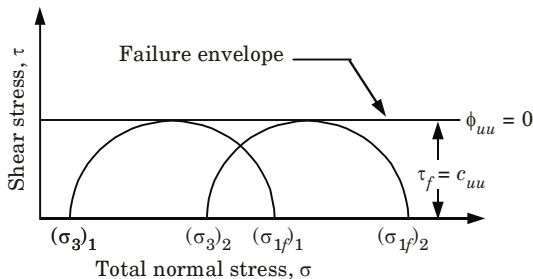

Fig. 3.
3. The Fig. 3 is drawn with total stresses and hence, defines total stress parameters. The failure envelope is horizontal and shear strength is given by,